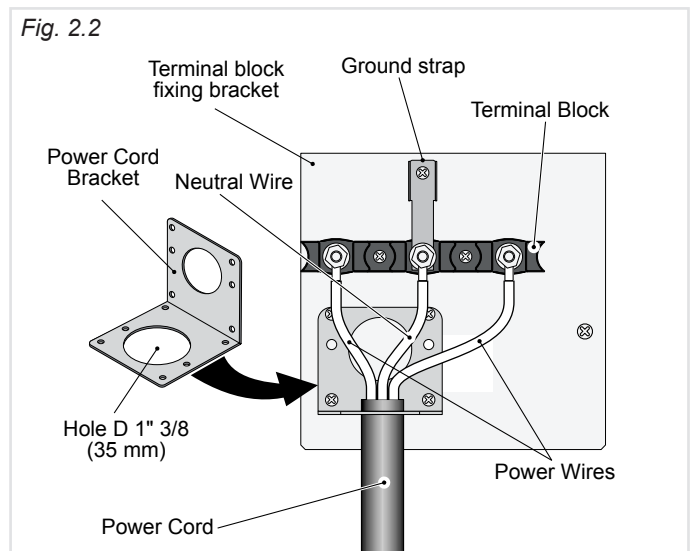

Fig. 2.2
2. Check the correct positioning of the **Power Cord Bracket** as per figure 2.2.